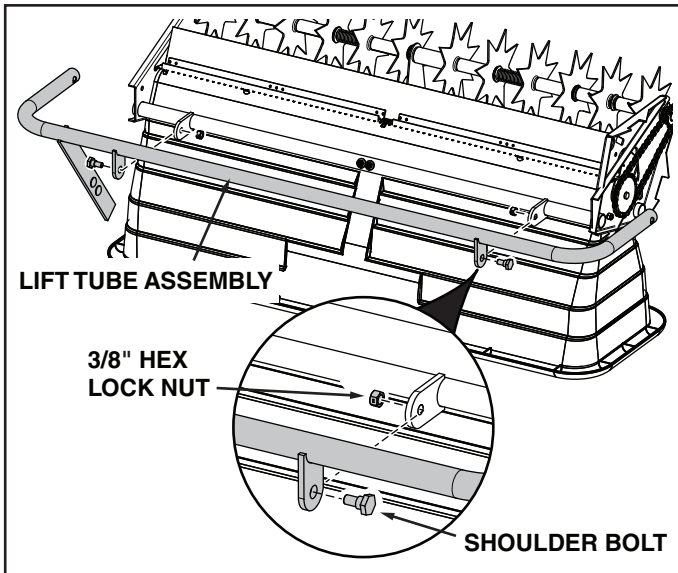

FIGURE 18
25. Attach the lift tube assembly to the spreader using the two shoulder bolts and two 3/8" hex lock nuts. See figure 18.